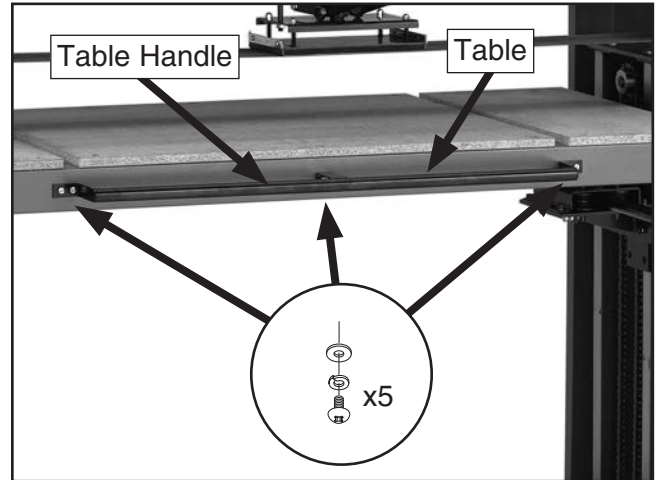

Figure 27. Attaching handle.
22. Attach the table handle to the table with (5) 1/4"-20 x 1/2" Phillips head screws, (5) 1/4" lock washers and (5) 1/4" flat washers (**Figure 27**).